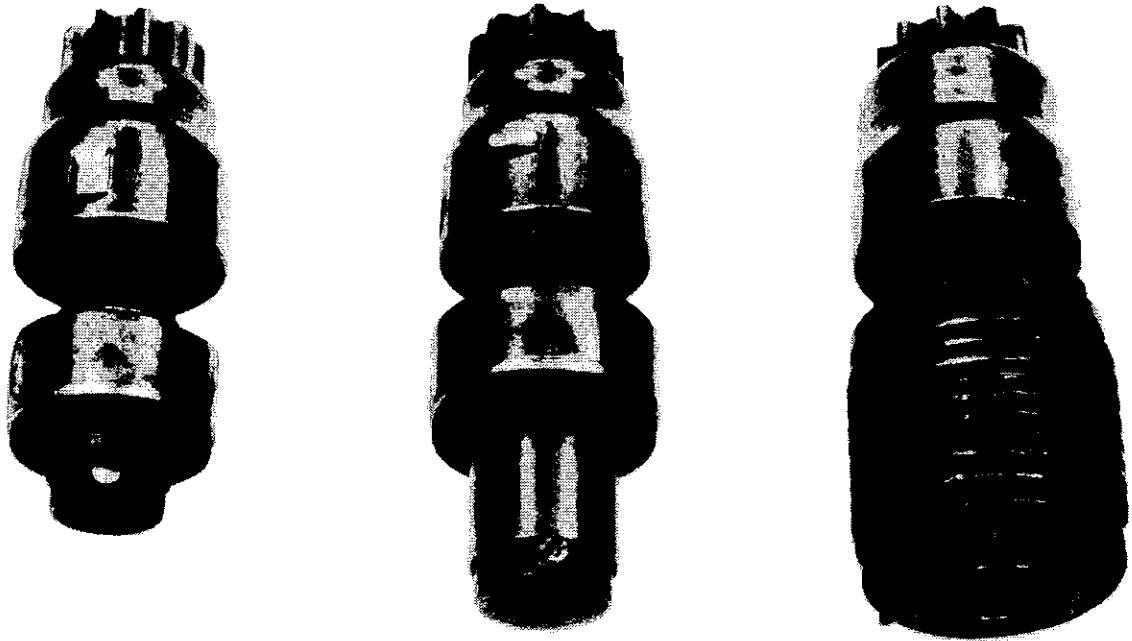

Figure 3.4. Three Types of LS-16 Starter Drives
(1) Perform steps outlined in paragraph 3.5.a, "Disassembly For Vane Kit Installation".
(2) Remove three screws (#32) and grease cap (#31) from rotor housing (#1). Discard O'ring (#30).
(3) Remove and discard old bearing (#11) from rotor housing (#1).
(4) After performing the above mentioned steps, remove the four (4) screws (#26) with lock washers (#27) from the drive housing (#23 or #36). Remove the drive housing.
(5) Remove and discard the bearing (#11) from the drive housing (#23 or #36).
(6) Remove the inlet adaptor (#28) and discard the O-ring (#29).
(7) Remove the two (2) access plugs (#19) located in the side of the inlet housing (#18).
(8) Rotate the starter drive (#24) until the drive set screw (which locks the drive in position on the shaft) is visible through the access port.
(9) Insert a screwdriver through the appropriate port and loosen the drive set screw until it stops against the inside of the starter drive locking collar, which partially blocks access to the set screw. Refer to Figure 3.4.
(10) Using the screwdriver, move the locking collar to expose the head of the set screw.
(11) Continue to loosen the set screw (but do not remove set screw) until the starter drive (#24) can be removed.
Some older starter drives included a coil spring which is visible through one access port and a set screw visible through the other. On these starter drives, lift the drive collar with one screwdriver and loosen the set screw with another screwdriver. See Figure 3.4.
The rotor shaft has two (2) set screw locking holes. Check Figure 3.4 to determine which position is correct.
- (20) Lock the drive set screw and install both access plugs (#19).
- (21) Install the new bearing (#11) on the drive housing (#23 or #36).
- (22) Properly pack the new bearing with lithium and molybdenum disulfide based grease.
- (23) Slip the drive housing (#23 or #36) over the shaft and align the center punch mark on the drive housing with the punch mark on the inlet housing (#18).
- (24) Install the four (4) screws (#26) and lockwashers (#27) in the drive housing. Alternately tighten each to 10-12 ft. lbs. (13.6 - 16.3 Nm) of torque.
- (25) Pour a small amount of light weight oil or diesel fuel into the starter air inlet.
- (26) Position a new O-ring (#29) on the inlet adaptor (#28) and install the adaptor on the inlet housing (#18).
- (27) Remove the starter from the vise or fixture.
- (28) Install the grease cap (#31) with a new O-ring (#30) and three (3) screws (#32).
- (29) Bench test the rebuilt starter, using a 1 inch air hose and/or install on the engine for test.